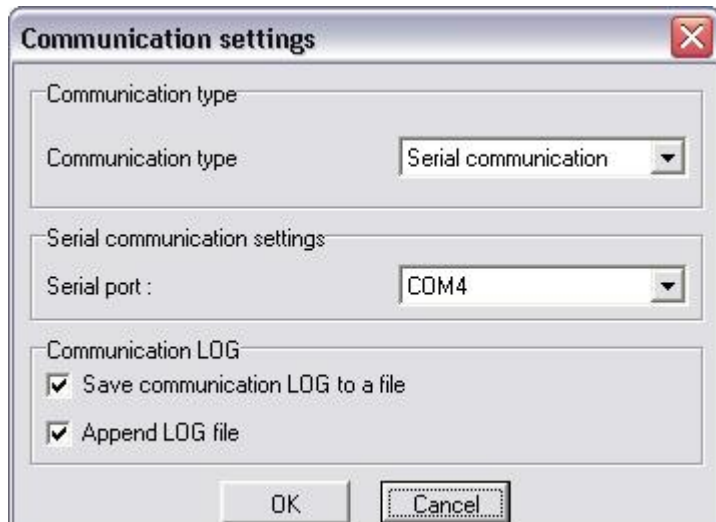

Fig. 25 – Communication Setting Window
- *Communication setting* - helps set the type of communication of the 2N[®] BRI Liteconfiguration software. By clicking on this item you open a configuration window (see Fig. 25). You can use a USB cable, or remote GSM (CSD) for communication with the GSM gateway.